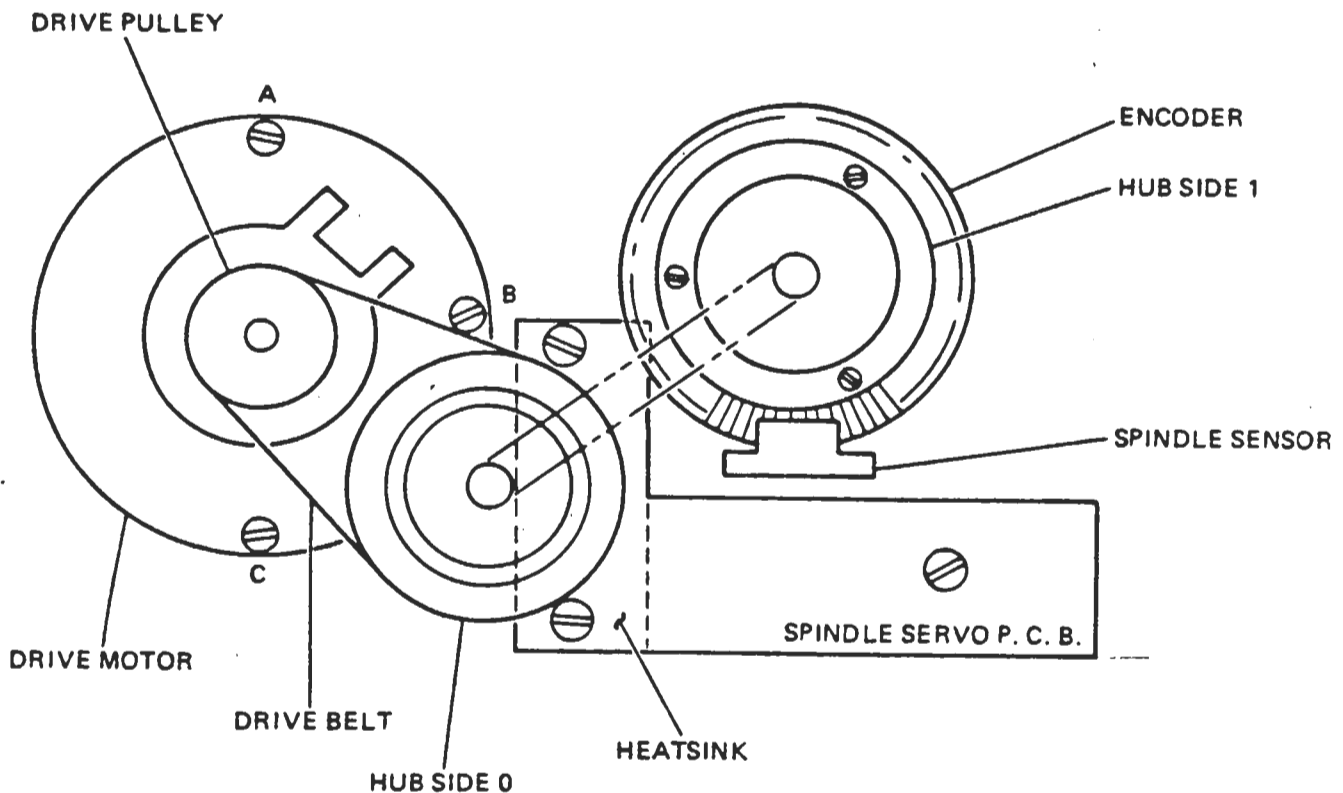

Figure 6-5 Drive System
6.3.1 SPINDLE DRIVE SYSTEM (Refer to Fig. 6-5, Drive System)
The drive system comprises drive motor, belt, spindle sensor assembly, hub assembly and spindle servo electronics PCB. (Figure 6-5)
- f. If the drive belt tracks too low, place a shim washer (PerSci Part No. 200081-001) between the drive motor and deck plate under Screw A. (Figure 6-5)
- g. If the drive belt tracks too high, place shim washers (PerSci Part No. 200081-001) between the drive motor and deck plate under Screws B and C. (Figure 6-5), i.e., one washer at each point.
- b. Loosen three motor mounting screws. (Figure 6-5)
The spindle sensor assembly is located on Side 1 of the deck plate (Figure 6-5) adjacent to the hub encoder disc. To replace, proceed as follows:
- e. Remove two flat head screws above the spindle servo heat-sink. (Figure 6-5)
The drive spindle assembly consisting of two hubs, bearing housing, shaft, two bearings, encoder disk and clamp ring, is a replaceable assembly. (Figure 6-5) If any part of this assembly is damaged, the whole assembly has to be replaced and the faulty assembly repaired at the factory or depot equipped to do such repairs.